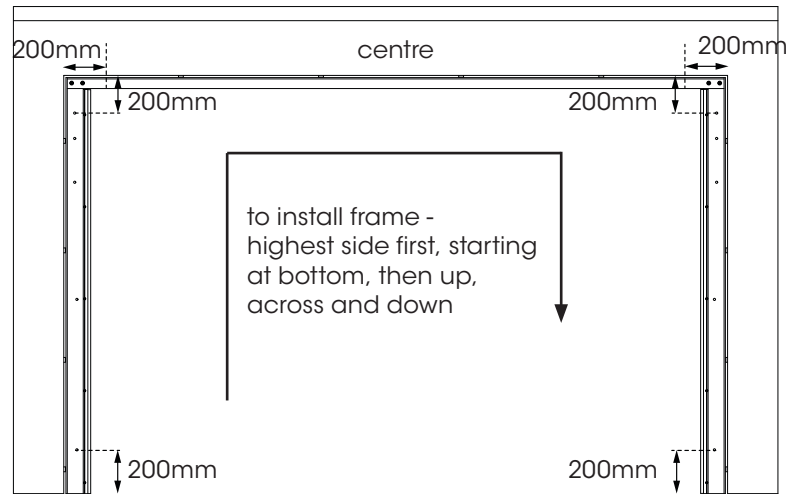

Fig: 2.1.1
- b) Start by drilling holes in the vertical frame, 200mm from the top and bottom and then at intervals no greater than 600mm, ensuring the fixing holes are aligned with the jamb substrate. Fig 2.1.1.
- e) Holes in the horizontal frame can be placed 200mm from each end, one in the centre and then evenly spaced at no more than 1200mm intervals. Fig 2.1.1
- f) Attach the top frame with two (2) bolts to the previously fitted vertical frame. Fit one (1) fixing to the opposite end for support and adjustments only.